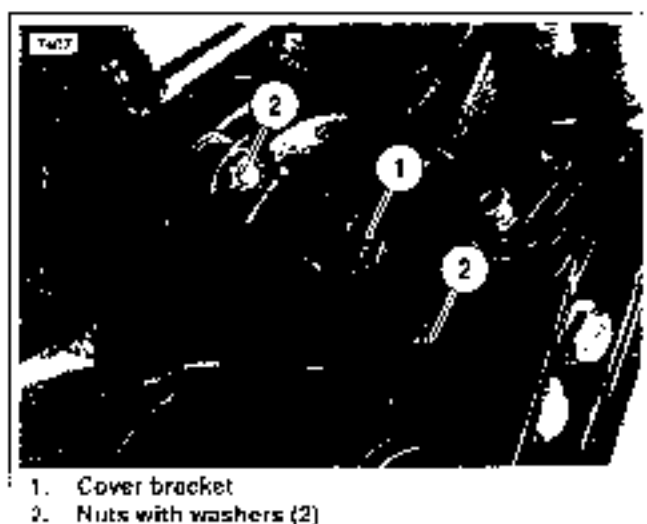

Figure 5-24. Cover Bracket
3. When installing drive assembly components, open end of idler bearing cage (17) faces toward solenoid.
4. When installing starter housing (13) to switch assembly (14) use new O-ring (18). Be sure to install return spring (21) and ball (22).
5. Lubricate armature bearings (10) with high temperature grease such as LUBRIPLATE 110. Install armature (9) and starter yoke assembly (3) to switch assembly.
6. Replace brush springs (6), if necessary. Install brushes (7) into brush holder (8).
7. Install starter end frame (4) with screws and O-rings (5).
8. Install pin-bolts (2).
9. Connect field wire (1) to terminal with nut (26). Tighten to 70-90 in-lbs (9.5-12.1 Nm).
10. Attach cover bracket (29) using two nuts with washers (30). (See also Figure 5-24.)
11. Attach cover (31) with cover screws (32).